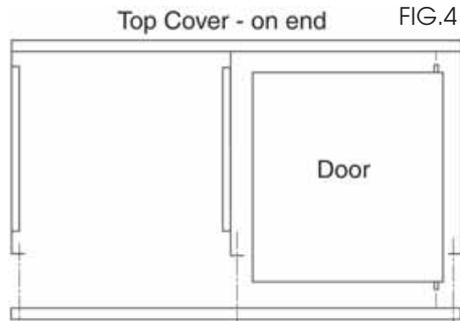

FIG.4
- 3 Attach the bottom panel in the same manner as in '1' above, i.e. by holding it on its edge with the blind hole on the inside edge uppermost. FIG.4.
Get an assistant to hold the door so that as the back panel is offered up, the swivel pins are entered in the two blind holes in the top and bottom panels. FIG.4